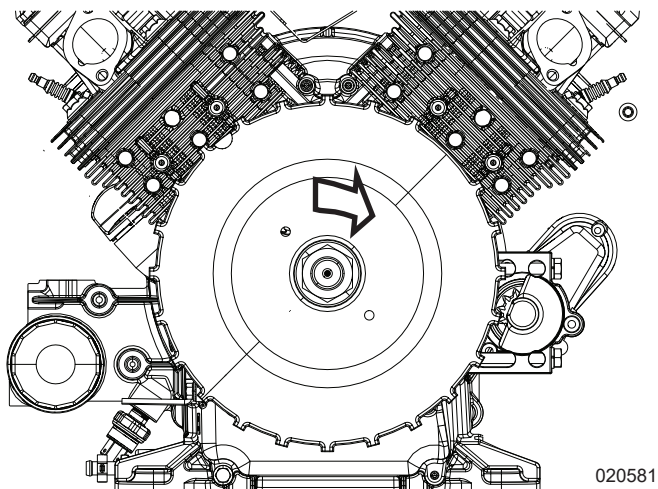

Figure 7-8. Tighten Flywheel Nut
4. Attach flywheel to crankshaft using flywheel washer (D) and flywheel nut (E).
5. See Figure 7-8. Tighten nut to 105–129 ft-lb (142–175 Nm).